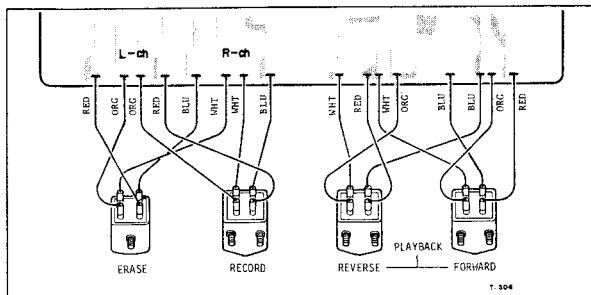

Fig. 6-2 Head Wiring — Rear View —
3. Remove 2 mounting nuts through access slot in head Base plate and dis-connect head wires. See Fig. 6-2.